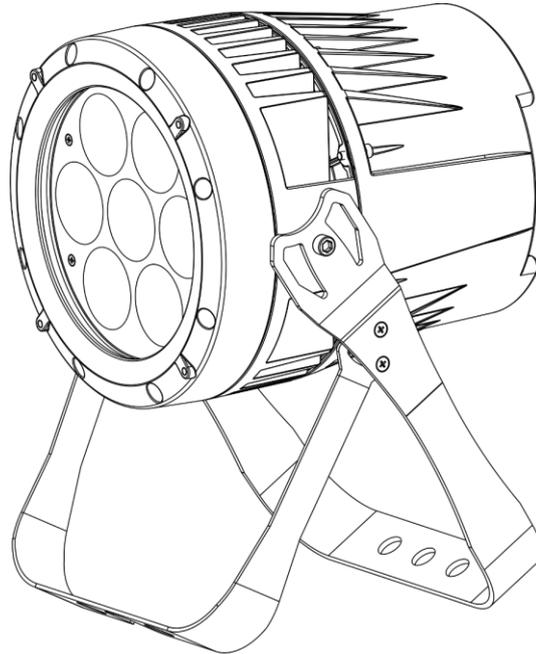

Fig. 08
- 01) Spread the 2 brackets for solid floor installation as shown in Fig. 08.